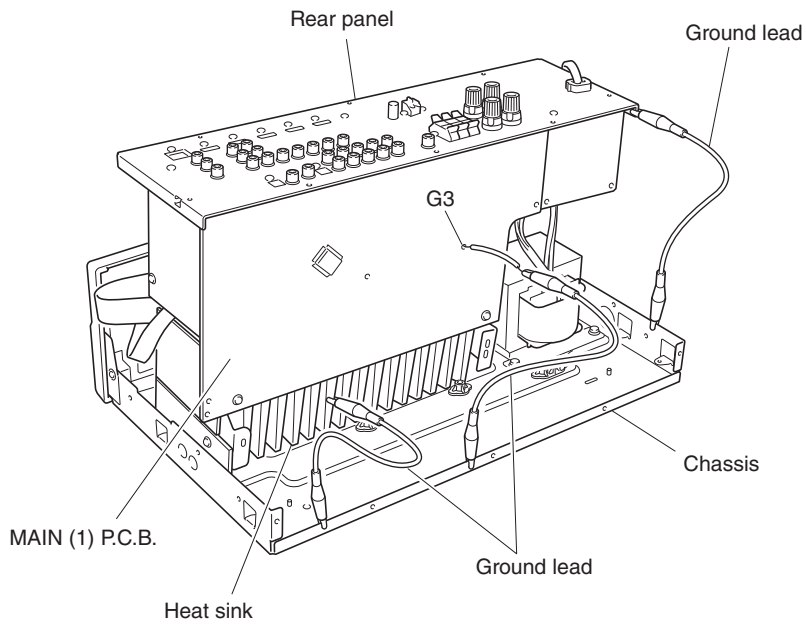

Fig. 5
- d. Place the P.C.B.s (with rear panel) upright. (Fig. 5)
- e. Connect the ground of heat sink, rear panel and MAIN (1) P.C.B. (G3) to the chassis with a ground lead or the like. (Fig. 5)